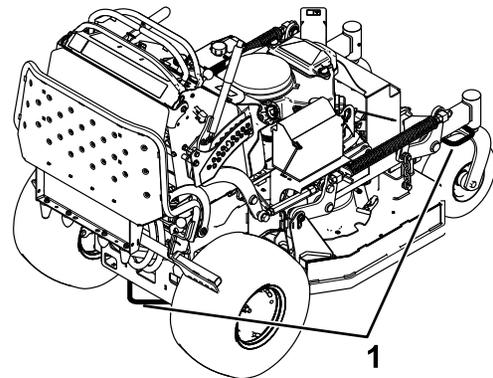

Figure 26
7. Tie down the machine near the front caster wheels and the rear bumper with straps, chains, cable, or ropes (Figure 26). Refer to local regulations for tie-down requirements.